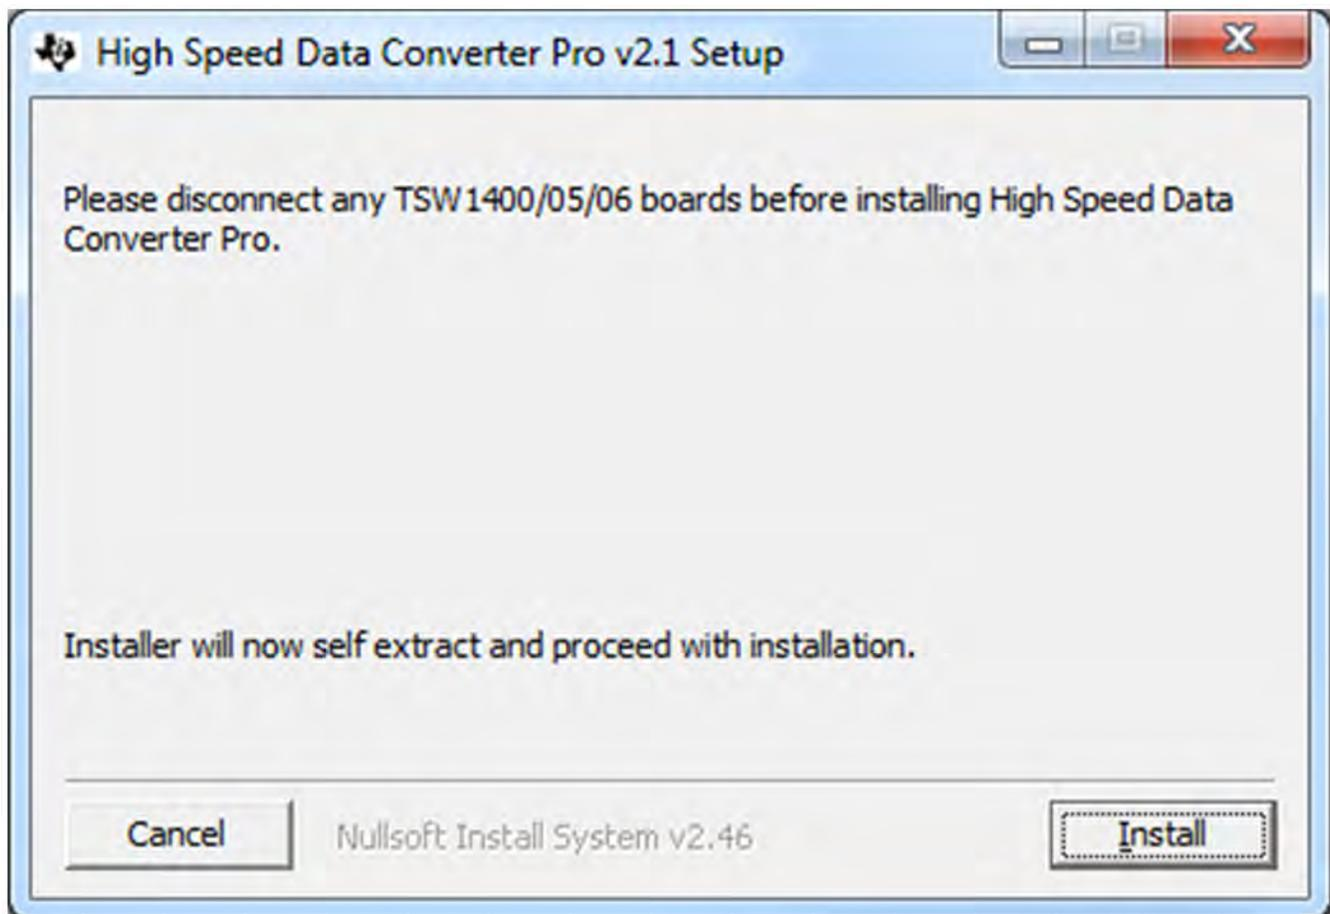

Figure 30. HSDCPro Install (Begin)
- Unzip the saved folder and run the installer executable to obtain the pop-up shown in Figure 30.